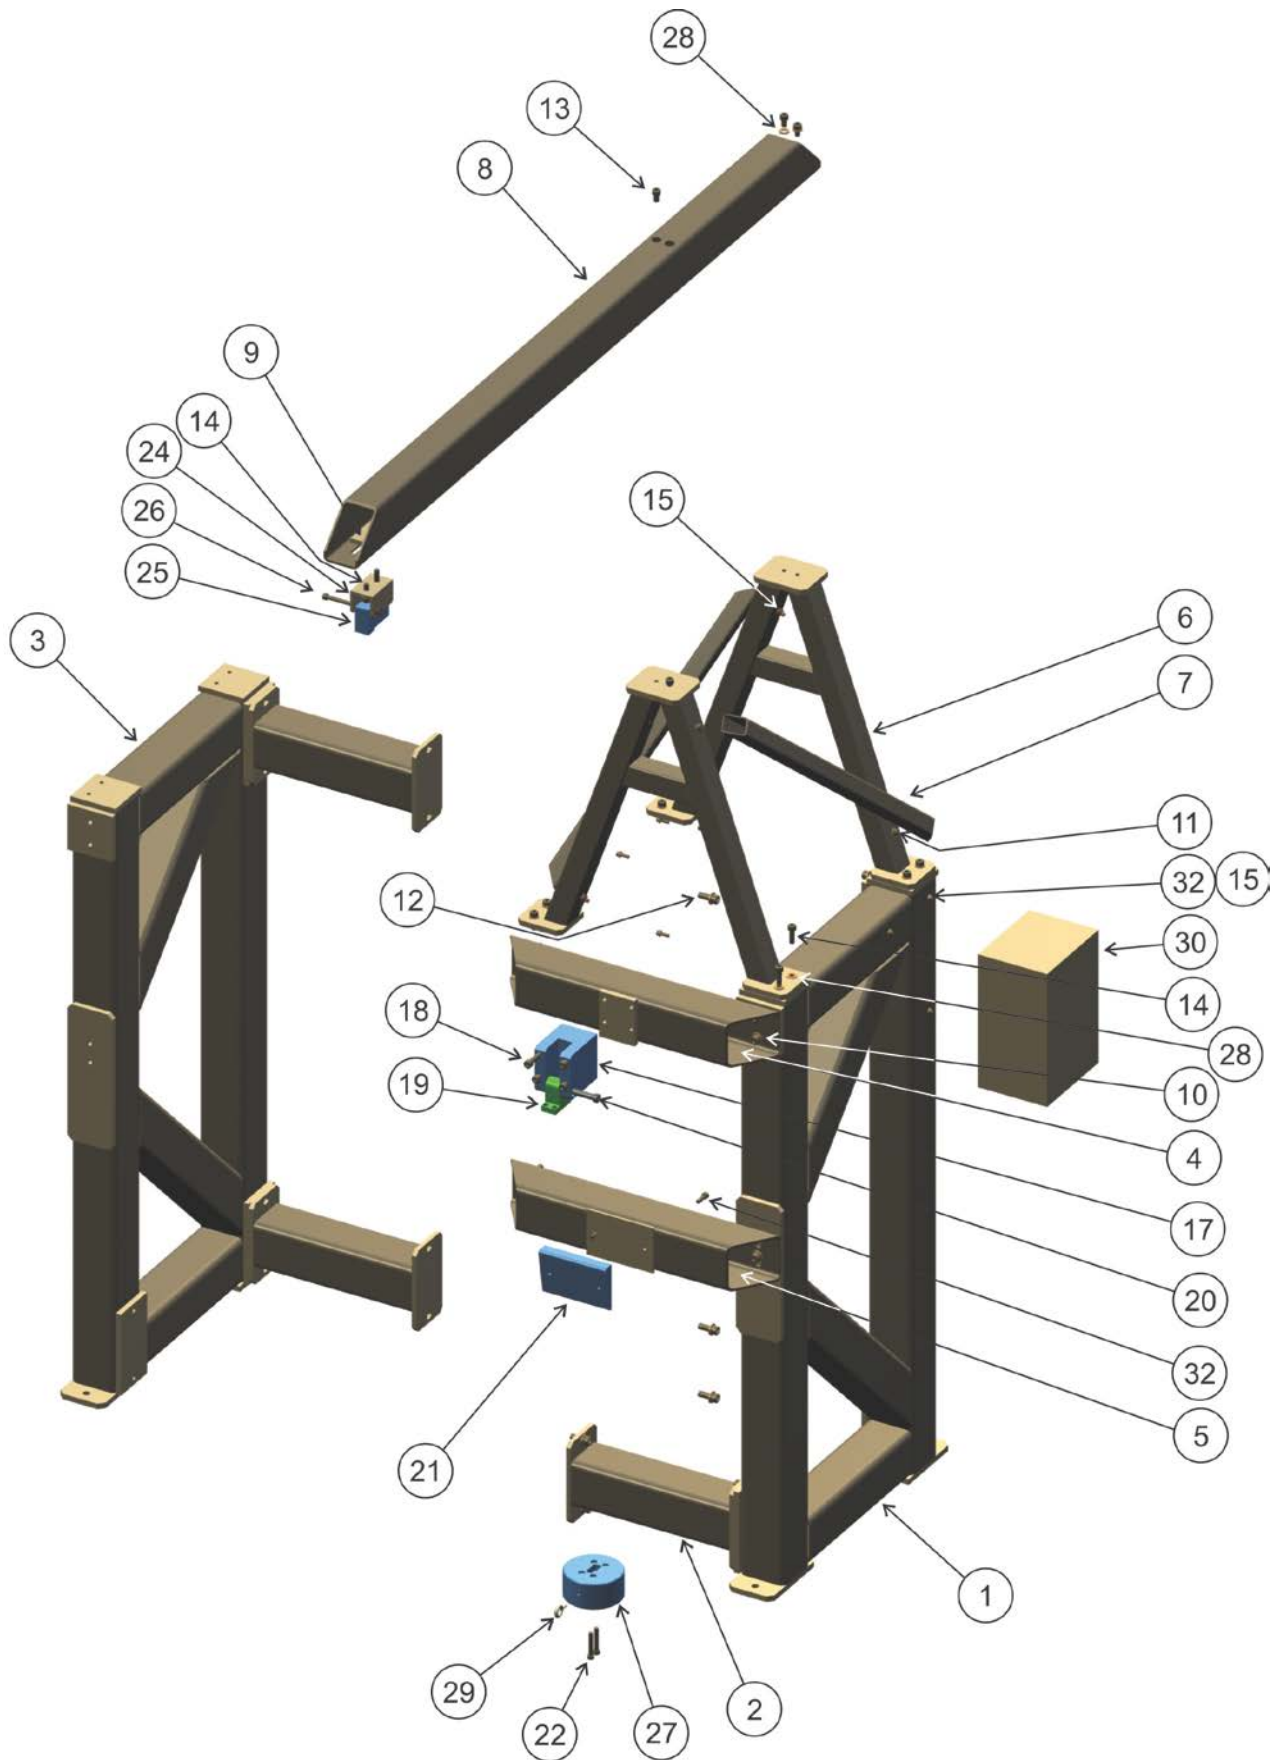
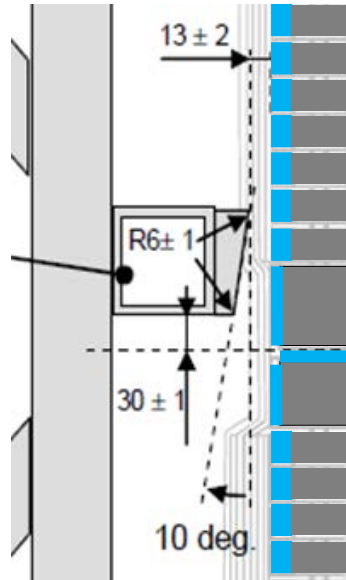

Figure 87 . Exploded view Dynamic Rig part nr 133-8400
Figure 93 . Checking the Impact Block position adjustment
segments of the tibia. See Figure 93. Adjust the height of the Impact Block by moving the Impact Bar Weldment (Figure 87, item 5) up or down (4 screws that mount tube to frame). Adjust the horizontal Impact Block to Leg distance to 13 ± 2 mm. Shims can be added to the back of the Impactor Block or the Pivot Clearance Block if necessary.